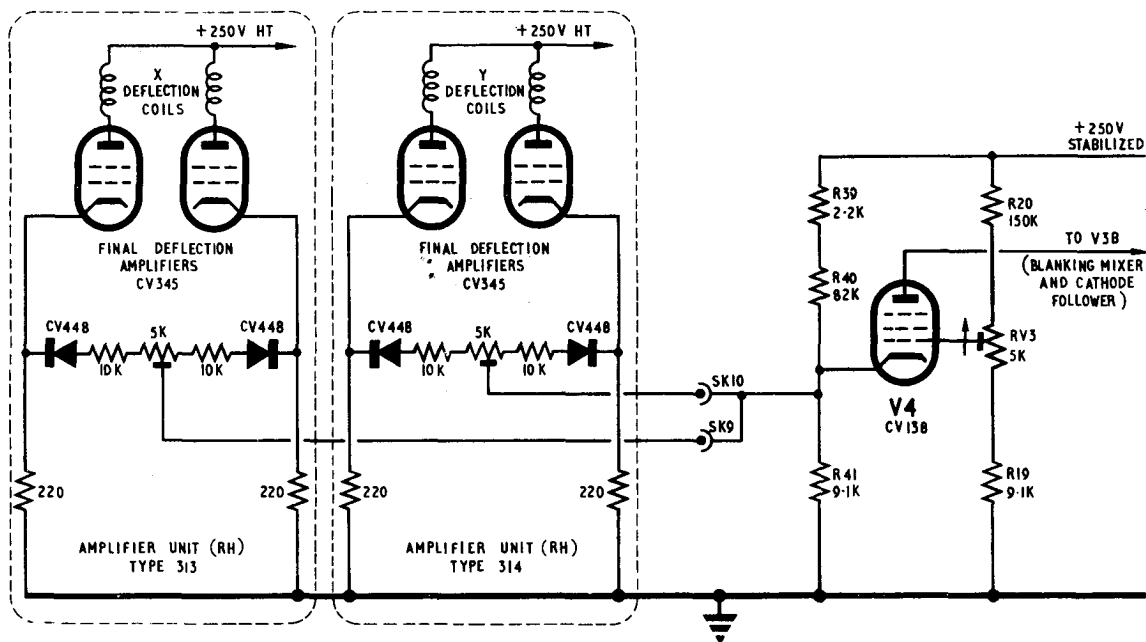

Fig. 8. Octagonal blanking
17. Fig. 8 is a simplified circuit diagram showing the octagonal blanking stage V4 together with the relevant parts of the deflection amplifier cathode circuits. While V4 is cut off, it has no effect on V3B grid and the blanking output is then wholly controlled by the scan failure blanking circuits described in para. 7 to 14. If, however, V4 is brought into full conduction by applying a less positive voltage to its cathode, the grid potential of V3B will be pulled down, overriding the other input and producing a negative blanking output from SK11. The object of the input circuit to V4 therefore, is to apply, to V4 cathode, voltages derived from the X and Y deflection amplifier cathodes, of the correct amplitude and timing to effect octagonal blanking.